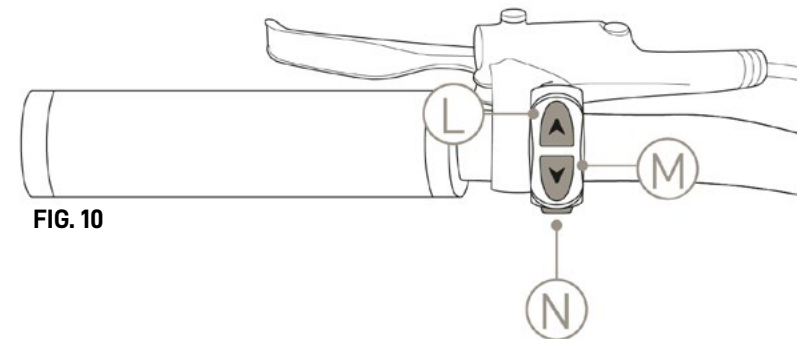

FIG. 10
To activate the walk assistance function, keep the "DOWN" button pressed (Ref. M - Fig. 10). The engine will start and the appropriate warning will appear on the display. The engine will deactivate in the following cases:
- Release of the "DOWN" button (Ref. M - Fig. 10);